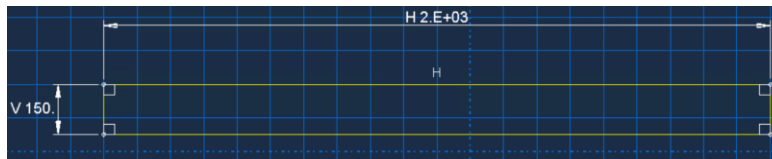

Figure 1-6 – Sketch of the rectangle.
- e. The final sketch is shown in Figure 1-6.